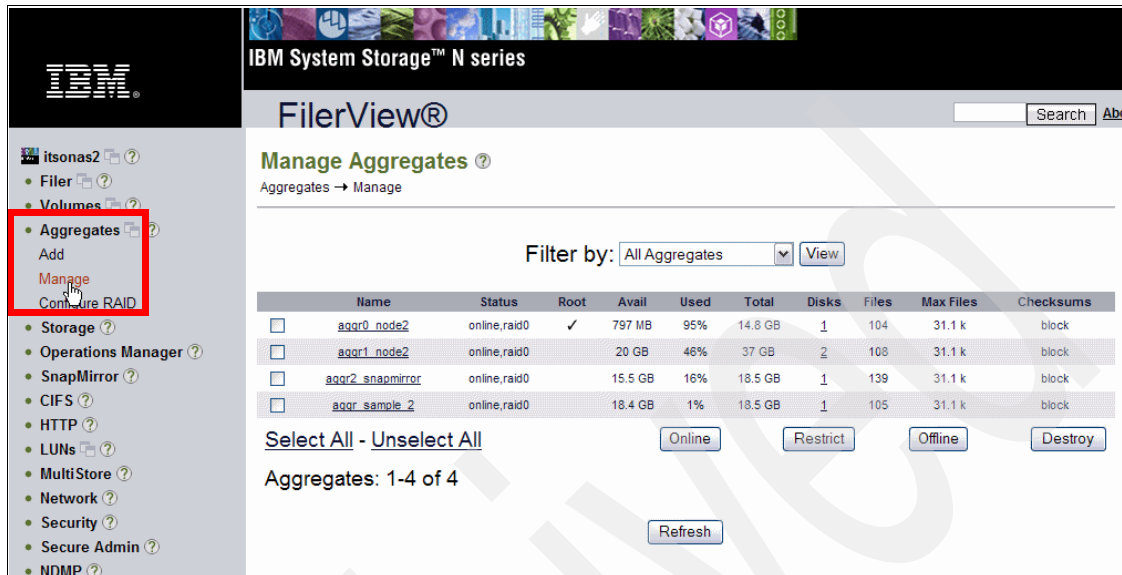

Figure 9-8 Aggregates / Manage: new configuration
5. Select **Aggregates** → **Manage**, verify that the new disk was added to the aggregate and that the size changed, as shown in Figure 9-8.